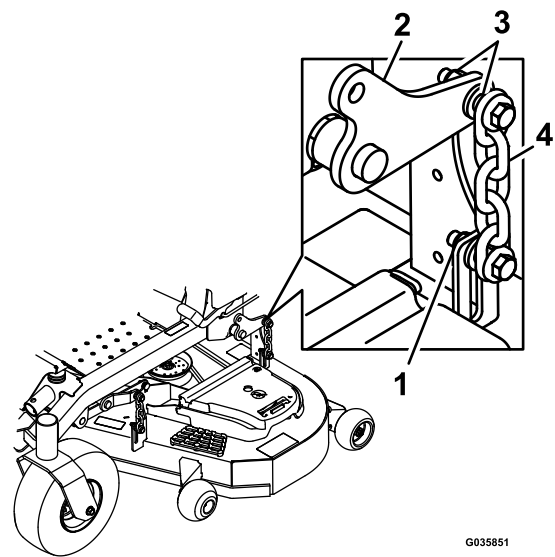

Figure 86
14. Loosen the locknuts (Figure 86) on all 4 corners and ensure that the mower deck is sitting securely on all 4 blocks.